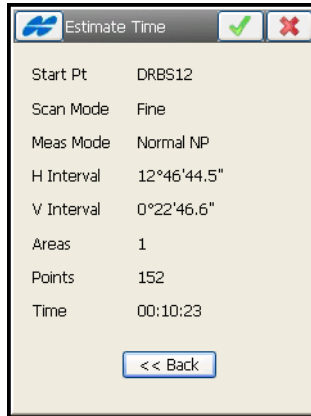

Figure 11-45. Estimate Time
- **Next** – saves the settings and opens the *Estimate Time* screen (Figure 11-45).
Before scanning begins, the *Estimate Time* screen (Figure 11-45) displays the scanning information, including the total number of points to be scanned and an estimate of the time it takes to complete the scan. If the estimated time is too long, click the close  button and enter larger intervals.